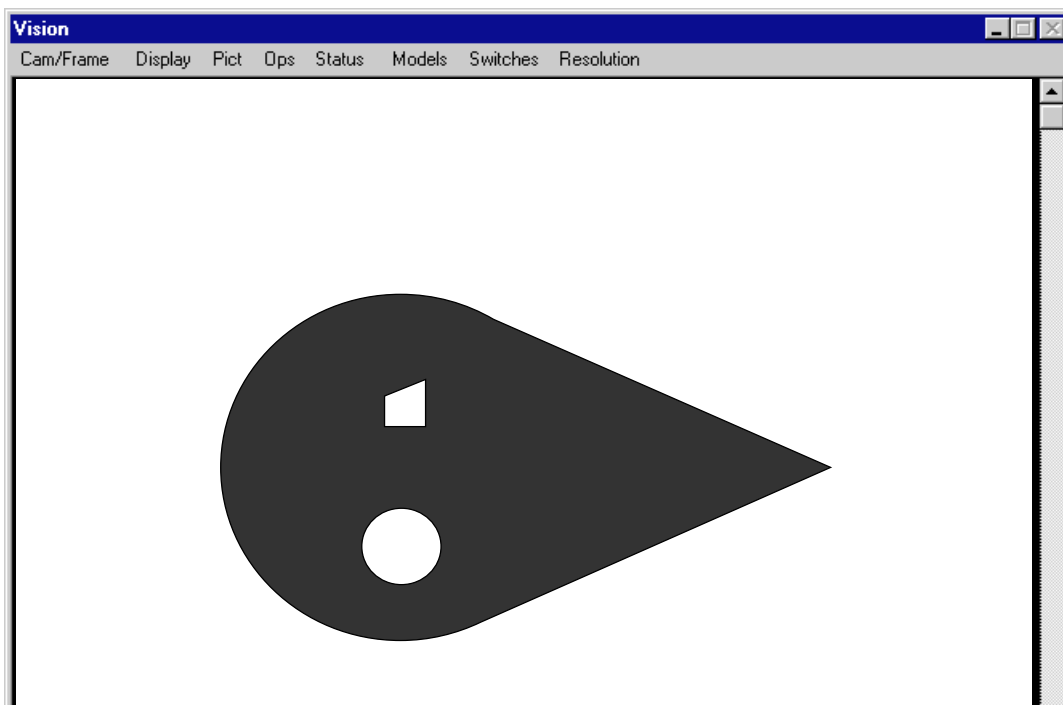

Figure 8-12. Switch and Parameter Example 6
**Figure 8-12, Switch and Parameter Example 6**, shows the effect of disabling V.BACKLIGHT. What we have told the system is that we now have light objects on a dark background. This causes the system to consider areas of darkest intensity as background. In the image below, the processor considers the object to be the background and vice versa. (Remember, in VDISPLAY mode 3, the object is rendered as white and the background as black.) If your vision operation examines white labels on a black conveyor belt, you will disable this switch. You may also find that some inspections can be made more easily when the background/object intensities are reversed.